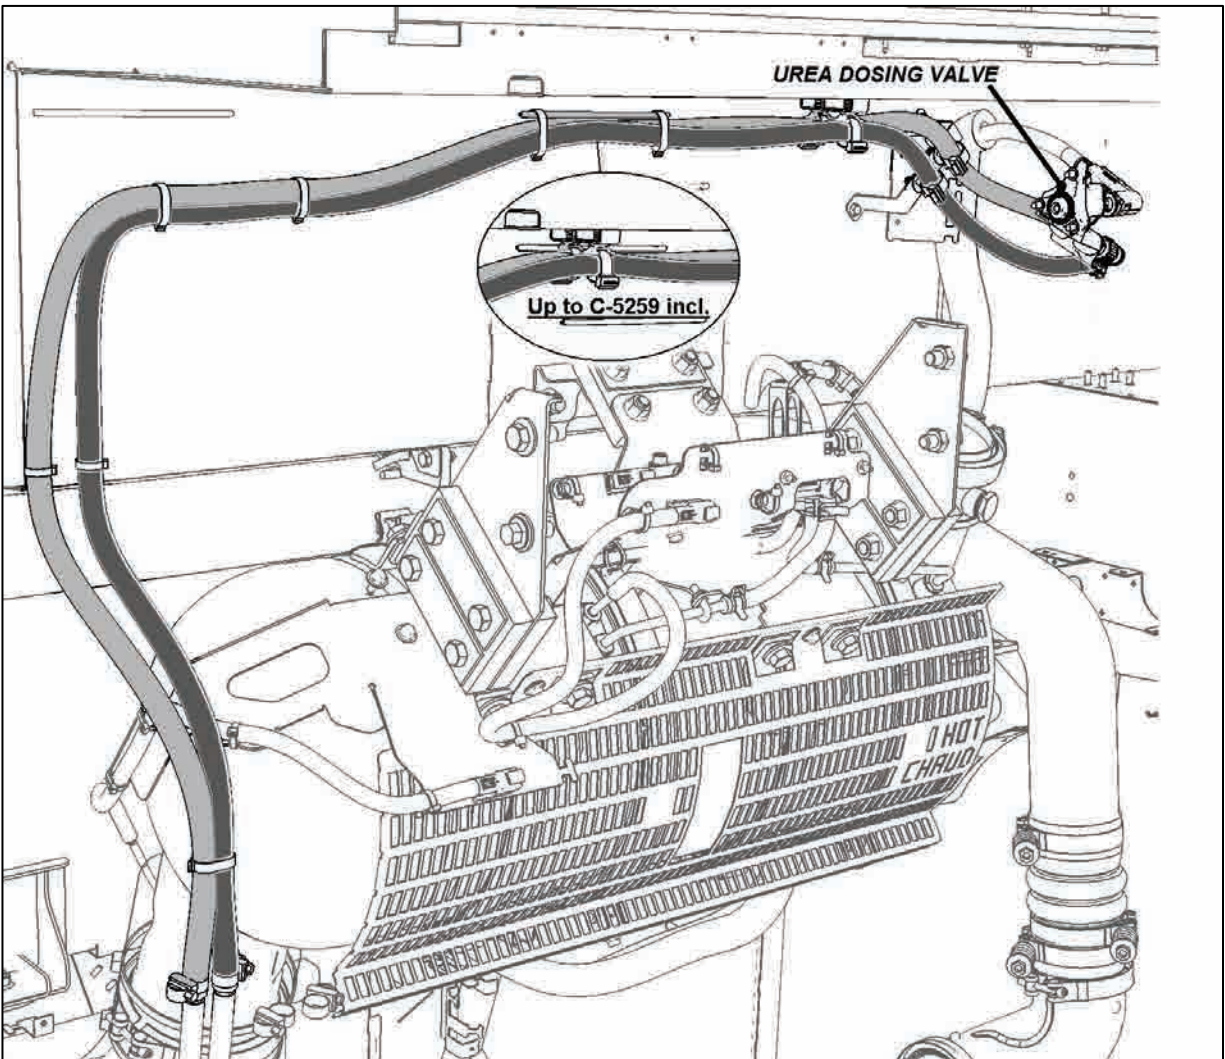

Figure 17
27. Adjust the length of the hoses to dimensions in fig 17.